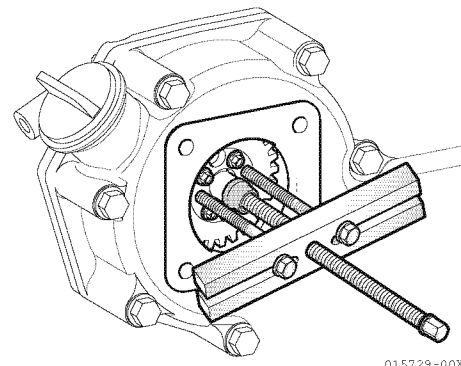

Figure 6-34
19. Disconnect the injection pump from drive gear as an assembly using an appropriate two-bolt gear puller (Figure 6-34).